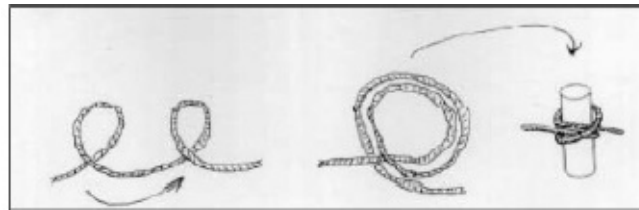

Figure 5-8, Middle-of-the-rope clove hitch
- d. **Middle of the Rope Clove Hitch.** This knot (Figure 5-8) secures the middle of a rope to an anchor. The knot forms two turns around the anchor. A locking bar runs diagonally from one side to the other. Leave no more than one rope width between turns. Ensure the locking bar is opposite the direction of pull.